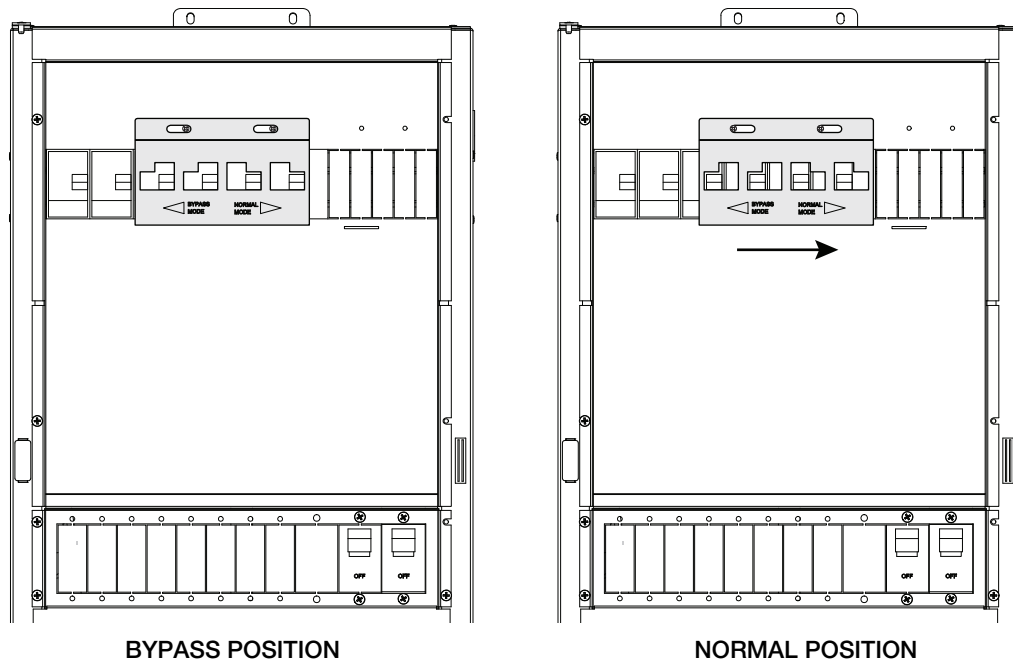

Figure 3-26 Installing the custom designed bypass interlock plate
- Install the custom designed bypass interlock plate, as shown in Figure 3-26 on page 3-47.
2. Ensure the breakers are in the down position and place the bypass interlock plate over the breakers, as shown in Figure 3-26, and secure it in place with the hardware provided.
3. To set it in Normal position, slide the bypass plate to the right, as shown in Figure 3-26.
10. Install the custom designed bypass interlock plate, as shown in Figure 3-26 on page 3-47.